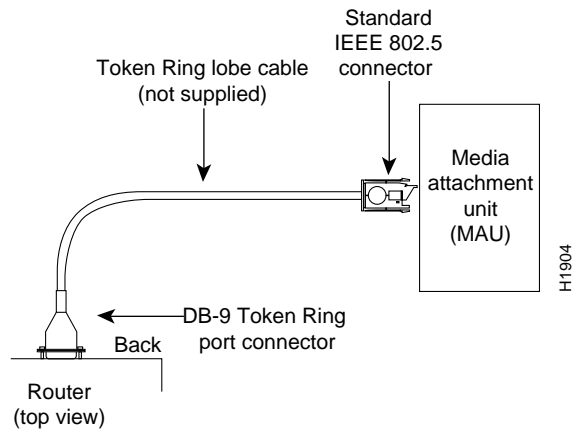

Figure 4 Token Ring Cable Connections
Step 3 Connect the Token Ring port to the network as shown in Figure 4.